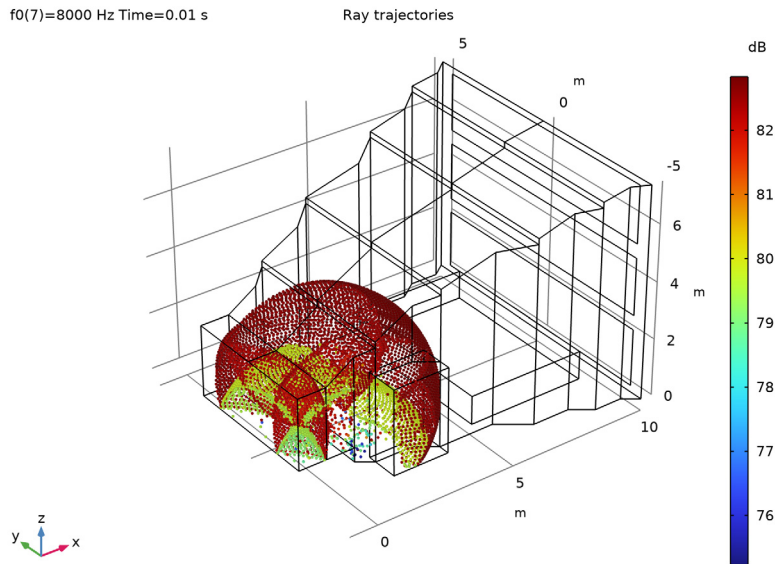
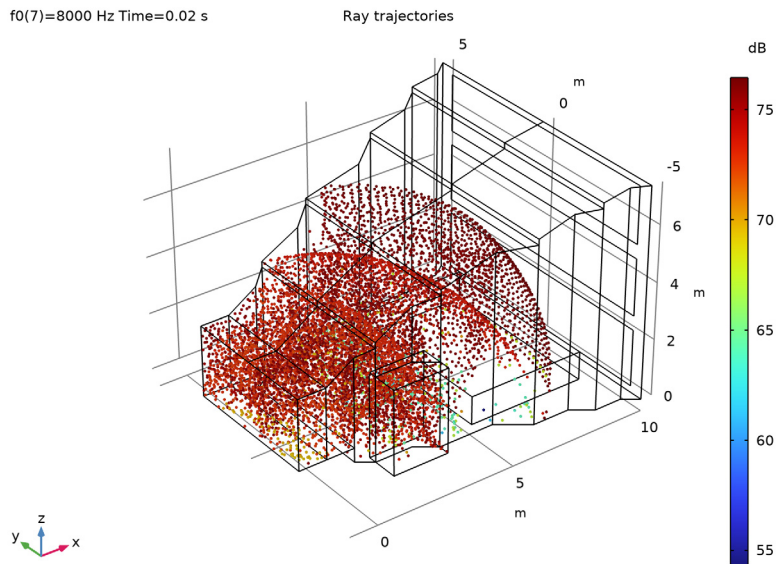

Figure 2: Ray location and SPL after 10 ms.
Figure 3: Ray location and SPL after 20 ms.
The local wavefront sound pressure level (SPL) is depicted in Figure 2 after 10 ms and in Figure 3 after 20 ms propagation for the 8 kHz frequency band. This type of plot can be used to inspect holes in the geometry and potential standing wave patterns. When the compute intensity option is selected in the *Ray Acoustics* interface, wavefront curvature, intensity, and SPL is calculated along each ray. They allow visualization of the (spatially) local acoustic properties. However, it is the acoustic power transported by each ray that is important when calculating the impulse response (IR) and when visualizing the sound pressure level at surfaces. This means that the compute power option should always be selected for IR computation, while the compute intensity can be turned off. Only selecting **Compute power** will also reduce the number of degrees of freedom (DOFs) solved for, making the model run faster and the size of the saved file smaller. The **Count reflections** option is also necessary when analyzing the IR.